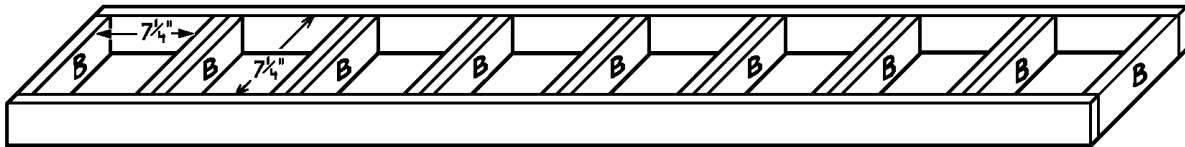

Figure 2
4. Repeat Step 3 six more times to create a total of seven double-thick short inner frames (B). You'll have two single short inner frames (B) left over.
5. Place the two long inner frames (A) on edge, parallel to each other and 7-1/4" apart. Fit the double and single short inner frames (B) between the two long inner frames (A), as shown in *Figure 2*. Note that the single short inner frames (B) are on the ends of the assembly and that each of the openings measures 7-1/4" square. Glue the long inner frames (A) to the short inner frames (B) and insert two 1-1/2" screws through the long inner frames (A) and into the ends of the short inner frames (B) at each joint.